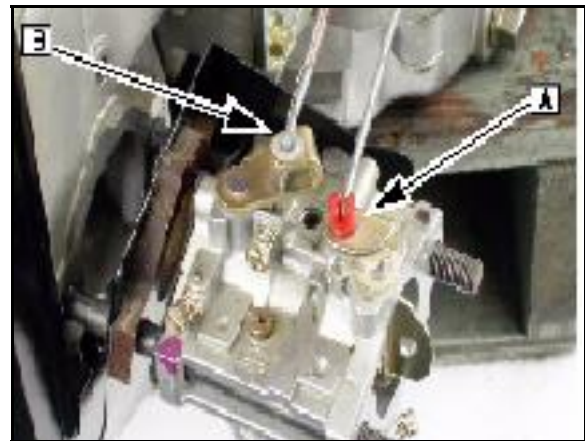

Fig. 19
12. Disconnect the choke link ([A] Fig. 19) and while sliding the carburetor from its mounting studs, disconnect the governor link and anti-backlash spring ([B] Fig. 19).